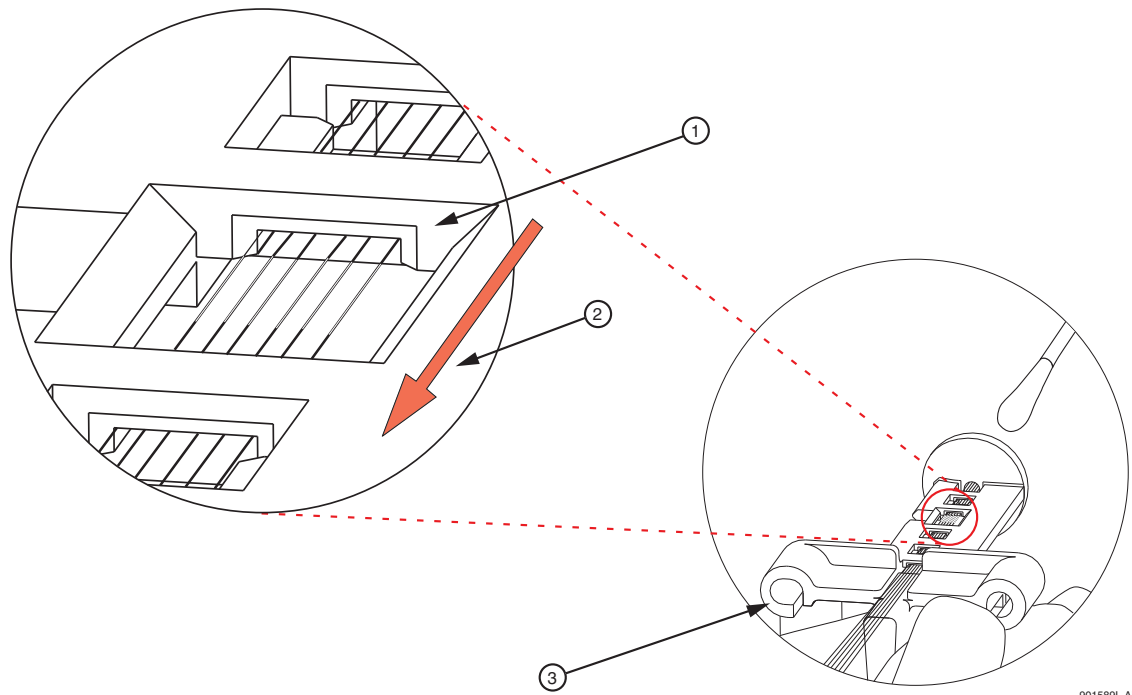

Figure 9.4 Cleaning the Detection Window
10. Using a water-moistened swab (Texwipe Swab, PN: TX754B), gently wipe the detection window by stroking in one direction *only* as shown in Figure 9.4